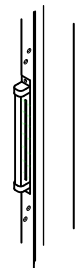

Figure 3
4. Monitor product temperature via the thermometer (see Figure 3).